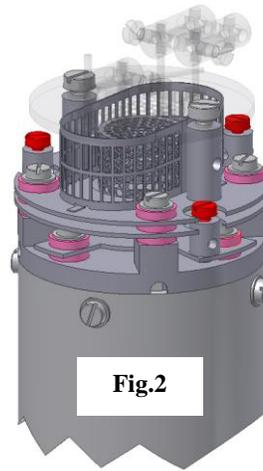

Fig.2
3. Hold the barrel connectors highlighted in orange firmly with your pliers and slacken the screws highlighted in red until the barrel connector can be removed from the filament plate and the connecting lead, see Fig.2.
4. Loosen the three M2 x4 highlighted in red that secure the three insulated wires that run from the analyser flange assembly to the Source, Repeller and Extractor plates and slightly bend the wires out of the way, see Fig.2.